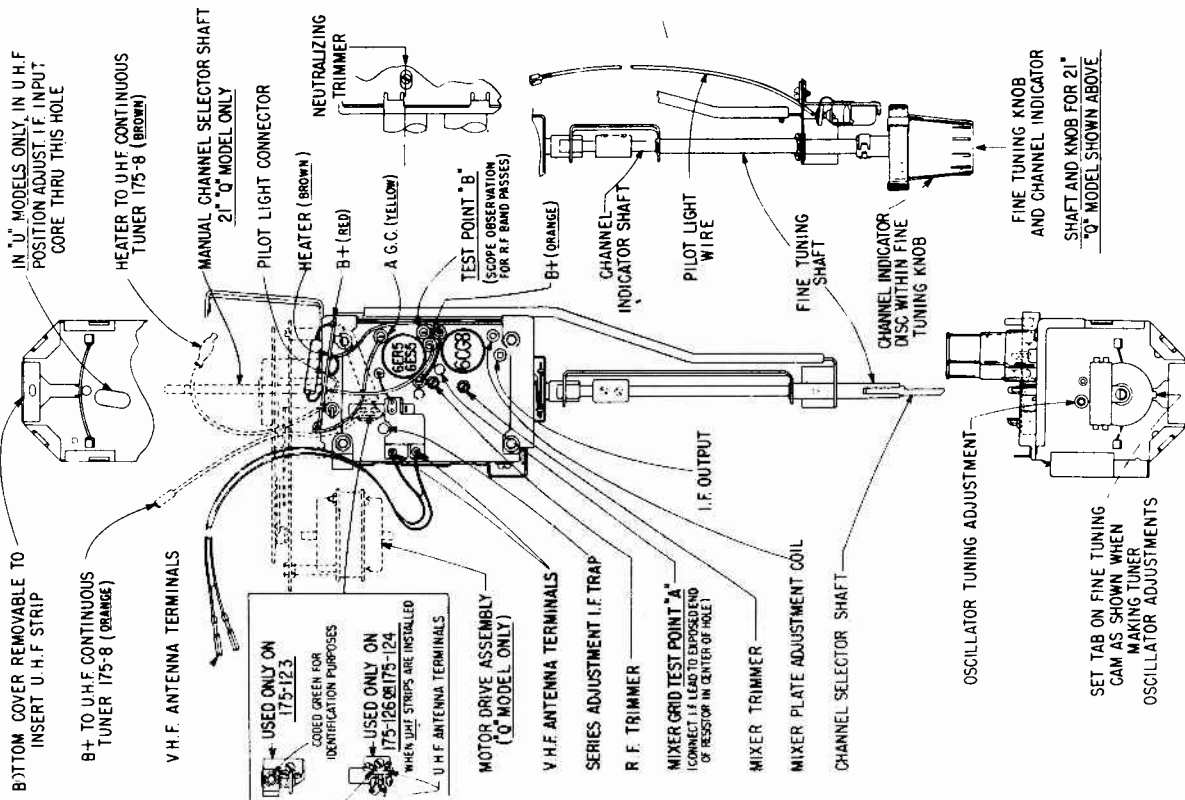
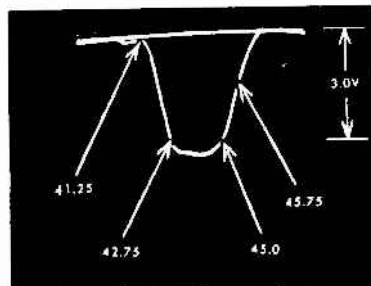
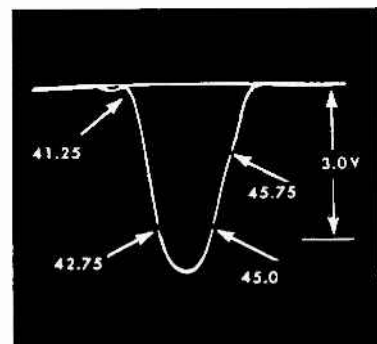

Fig. 1 Tube and Trimmer Layout, Bandswitch Tuner
Fig. 8 Overall IF Response
Fig. 9 Overall IF Response 16C20 Chassis Only
To adjust the oscillator adjustment screws set the fine tuning control to a position where the index hole in the drive cam is directly over the small hole just below the channel 13 adjustment screw (see Fig. 1). Without further adjustment of the fine tuning control, insert a 68-24 alignment tool into the tuner and adjust each operating channel to resonance starting with the highest channel and following each lower channel in sequence. Be certain not to move the fine tuning shaft when switching channels. It will be noted that turning the oscillator screw to one side of resonance results in a faded, washed-out picture with the spacings between the wedge lines "fogged" and turning in the opposite direction causes the spaces between the lines to clear up, however, going beyond this point will cause the picture to take on a "wormy" appearance from sound getting into the picture. Correct adjustment is obtained by adjusting for a "wormy" picture and then back down the adjustment screw slightly until the picture clears up.
5. Connect the sweep generator to terminal "A" (mixer grid, see Fig. 1, 2 or 3, depending on tuner). Connect terminal "F" to chassis and connect a jumper between terminal "E" and the junction of the 56 (68 in 16C20) and 1500 ohm resistors in the cathode of the 1st IF. Adjust sweep to obtain a response similar to Fig. 8. Switch oscilloscope to 10 X gain to "blow up" the traps.
7. Disconnect the jumper between "E" and the 56 and 1500 ohm cathode resistors. Connect this jumper between "E" and chassis. Adjust sweep generator for 3 volts peak to peak output. Alternately adjust the 2nd, 3rd, 1st IF and the converter plate coil until an overall response similar to Fig. 8 (Fig. 9 for 16C20) is obtained. It will be found that the 2nd IF affects the low side (42.75 Mc) and the 3rd IF the high side of the response. If the receiver is equipped with a target tuner, adjust the IF trap L1 for minimum response at 45.5 Mc. After alignment remove all jumpers and check operation.